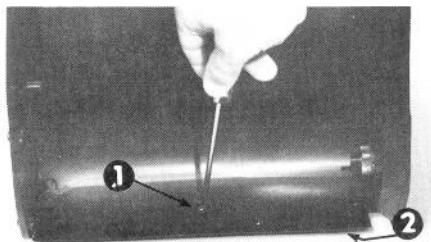

Figure 16
1. Remove the rotor; refer to Replacing Rotor, page 8 items 1 through 3.
2. Remove the three screws and lock-nuts used to hold the scraper blade in place. Remove scraper blade (Fig. 16).